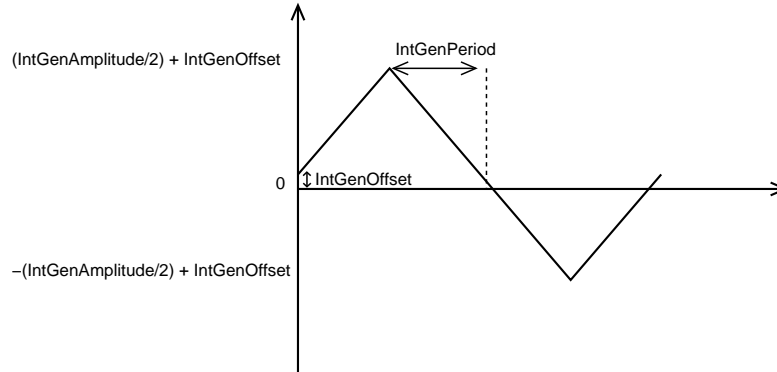

Figure 3.3: Triangle waveform
**Triangle Generator:** As displayed on figure 3.3, the mode 3 will generate a triangle signal for the SetPoint according to the IntGenPeriod, IntGenAmplitude and IntGenOffset registers. IntGenOffset is a signed value.